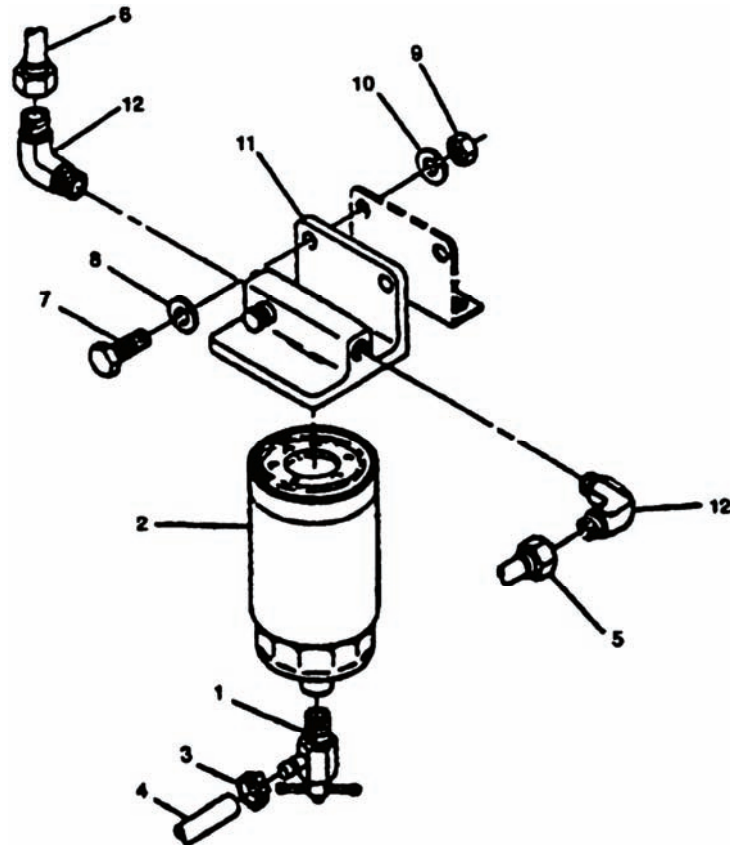

Figure 2-31. Fuel Filter/Water Separator.
- c. Open water drain valve (1, Figure 2-31) and drain all water from fuel filter/water separator.
- d. Loosen clamp (3) and disconnect drain line (4).
- c. Loosen clamp (3, Figure 2-31) and disconnect water drain line (4) from fuel filter/water separator.
- e. Remove bolts (7), flat washers (8), nuts (9), lock washers (10), and fuel filter/water separator head (11) with element (2). Discard lock washers (10).
- d. If damaged or if replacing fuel filter/water separator, remove and retain elbows (12, Figure 2-31) from head (11).
- e. Install elbows (12).
- b. Install fuel filter/water separator head (11, Figure 2-31) with nuts (9), new lock washers (10), bolts (7), and flat washers (8).